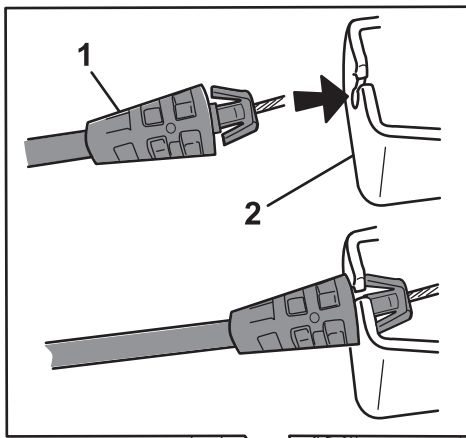

Figure 3
5. Insert the cable anchor into the hole in the bracket on the transmission case as shown in Figure 3.